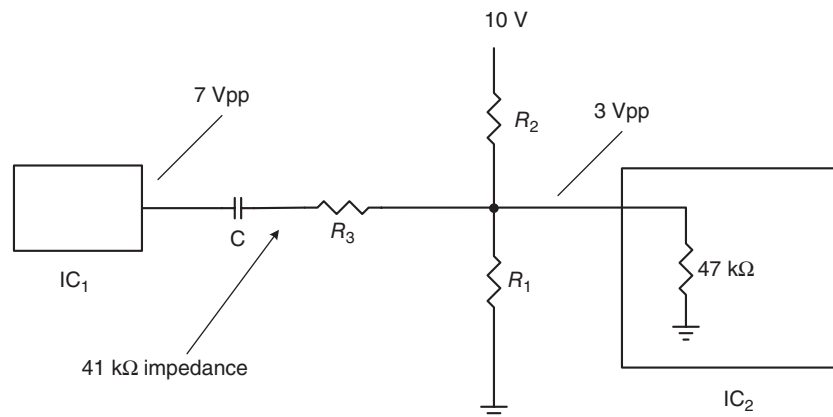

Figure 1.12. Circuit for Problem 1.3.
- 1.3** Components IC_1 and IC_2 are connected using the coupling network shown in Figure 1.12. IC_1 has a DC offset of 15 VDC and must be loaded with $41\ k\Omega$. The AC signal from IC_1 is 7 Vpp. IC_2 requires a DC bias of 4.2 VDC and a input signal level of 3 Vpp. The input of IC_2 has a $47\ k\Omega$ resistor connected directly to ground. Compute R_1 , R_2 , and R_3 for this network.